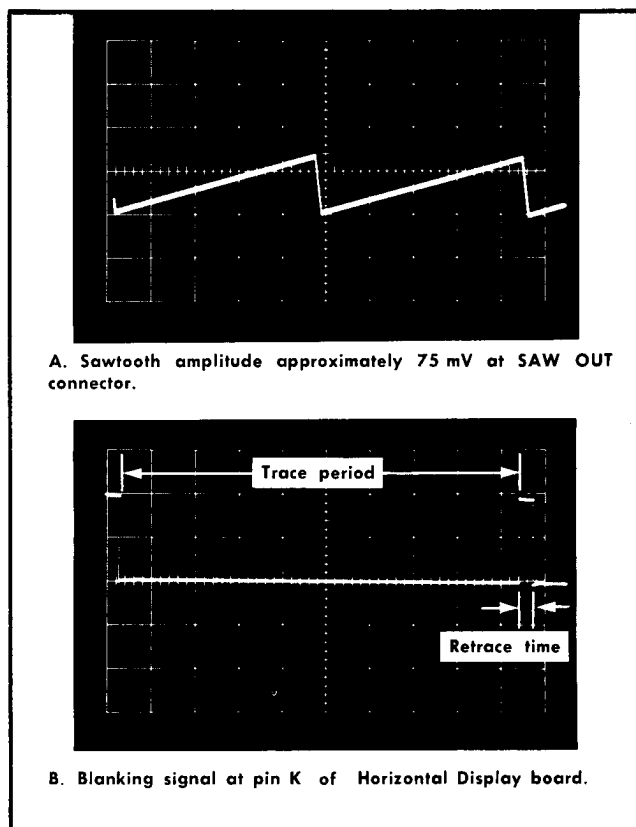

Fig. 6-16. Sawtooth waveform and blanking waveform.
- Check unblinking waveform. Amplitude should measure between 8.0 V and 9.0 V, typically 9.0 V (see Fig. 6-16).